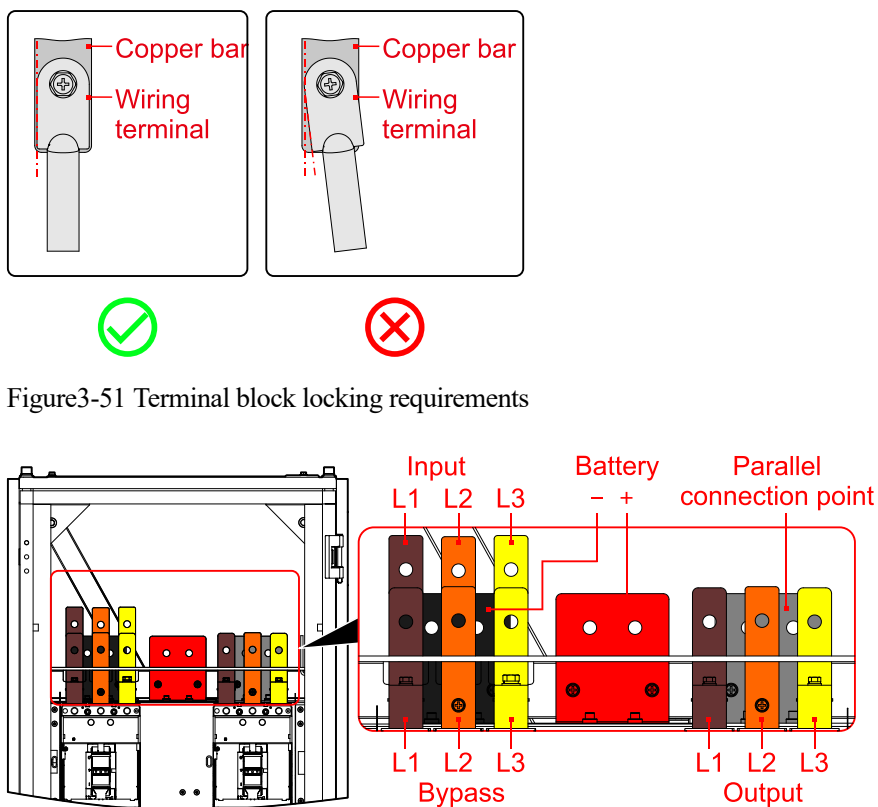
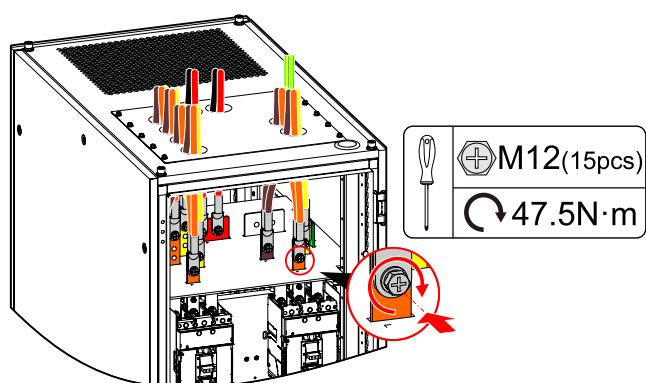

Figure3-52 Terminal block explanation
Figure3-54 Wiring diagram
Step 6 Connect the crimped cables to the corresponding terminal block of the UPS (as shown in Figure3-52) and tighten the bolts. The wiring diagram is shown in Figure3-54.